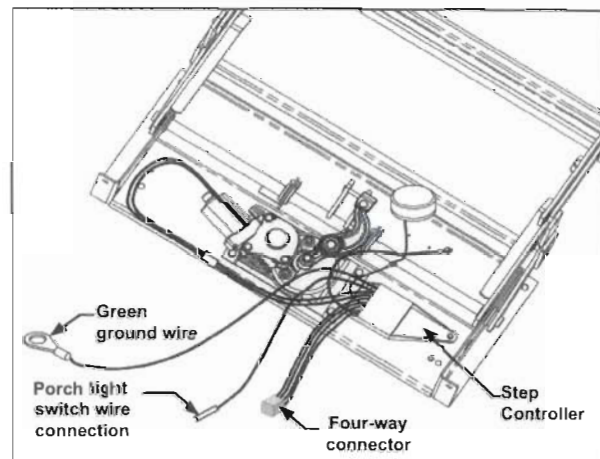

Figure 3
5. Unplug the four-way connector for the step controller and unplug the connector for the porch light switch wire. Refer to Figure 3.